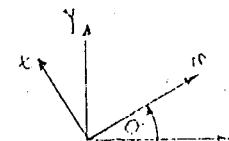

Fig. P2.65
2.65. At point P in a surface, two rectangular coordinate systems are constructed as shown in Fig. P2.65. All strains given below have been multiplied by 10^6 , indicated by the symbol μ , which stands for micro-, i.e., 10^{-6} . Thus a strain of $\epsilon = 300\mu$ is actually $\epsilon = 300 \times 10^{-6} = .0003$.